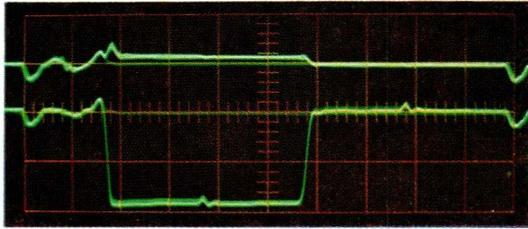
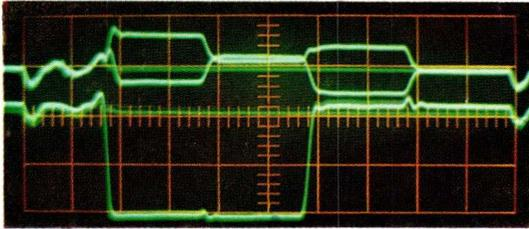
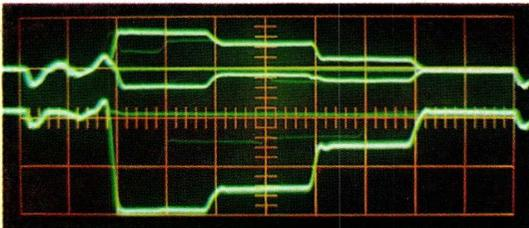

Fig. VII-30. Correctly adjusted delay-line
Fig. VII-31. Amplitude error in delay-line
Fig. VII-32. Phase error in delay-line (notice the deviation of the (B-Y) signal in respect with Fig. VII-31)
- Adjust the phase and amplitude controls of the delay-line so that the signal to the red grid is zero, see Fig. VII-30 (upper trace (R-Y), lower trace (B-Y)). It may seem that two successive lines on the scope screen show a different signal level, so that the result (two TV-lines onto each other) cannot be made zero. This is an indication of cross-talk between the (B-Y) and (R-Y) channel of the receiver. In case of incorrect adjustments, oscillograms as shown in Fig. VII-31 and Fig. VII-32 will be measured (upper trace: (R-Y), lower trace: (B-Y)).